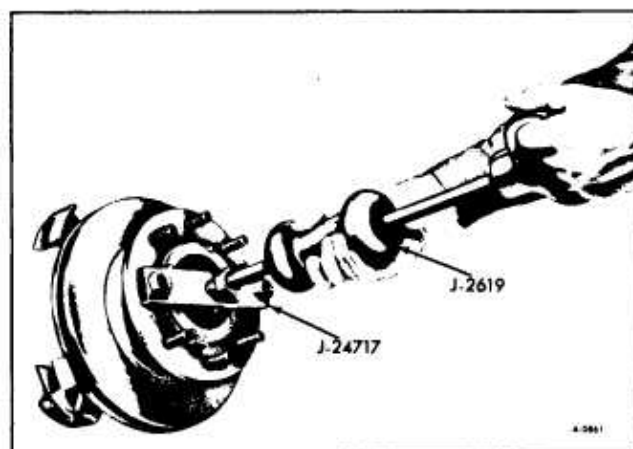

Figure 8-Hub and Disc Removal
9. Position Tool No. J-24717 on hub as shown in Figure 8.
10. Operate slide hammer Tool No. J-2619, until assembly is free of knuckle. See Figure 8.